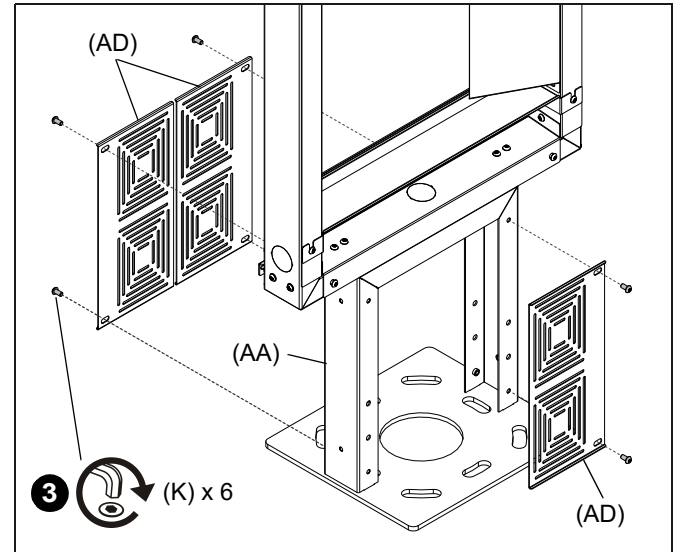

Figure 26
3. Install up to three storage racks (AD) to the base (AA) using six M8 x 16mm screws (K) (two per rack) as needed. (See Figure 26)